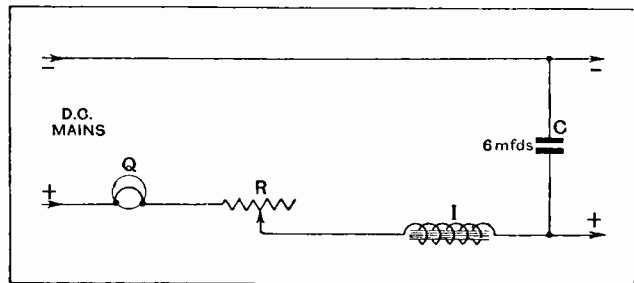

Fig. 8.—Smoothing circuit for obtaining H.T. supply from D.C. mains.
Fig. 8 shows the smoothing arrangement employed; no attempt was made to produce a perfectly silent H.T. supply (a matter of no great difficulty). The arrangement shown, which was put together out of odds and ends in a few minutes, was quite sufficiently effective to reduce the ripple to a very quiet and hardly perceptible hum, not loud enough to be offensive to the ear.
As will be seen by reference to Fig. 8, the lead from the negative main is connected directly to the negative H.T. terminal of the interference tester. The lead from the positive main is, for safety, connected through an electric lamp (Q); any lamp will do (say, a 16-c.p. carbon filament lamp). For the same voltage as the D.C. supply, R is a variable resistance, which, though not essential gives some control over the voltage. On its way from this resistance the current is passed through an iron core choke I. From the choke, connection is made to the positive H.T. terminal of the interference tester. A capacity of 6 mfd. is connected across the two H.T. supply leads, as shown at C.